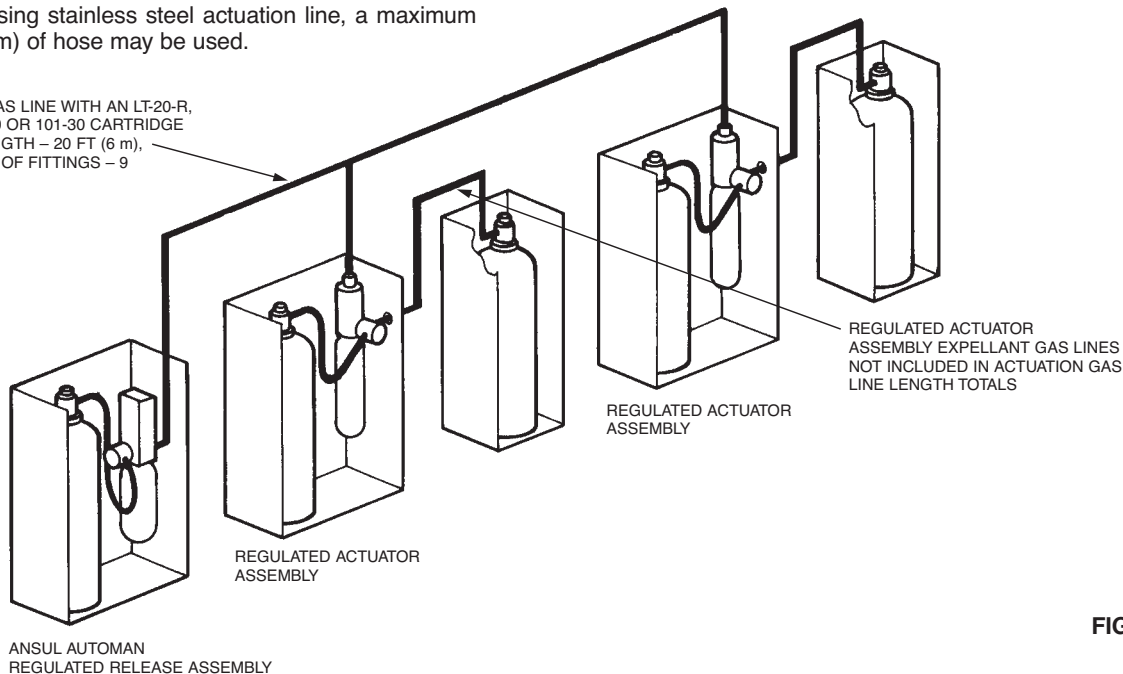

FIGURE 8
- 3. The total combined length of the actuation gas line from the regulated release assembly to all regulated actuator assemblies must not exceed 20 ft (6 m) when using an LT-20-R nitrogen cartridge, an LT-30-R nitrogen cartridge, a 101-10 CO₂ cartridge, or a 101-20 CO₂ cartridge. See Figure 8.